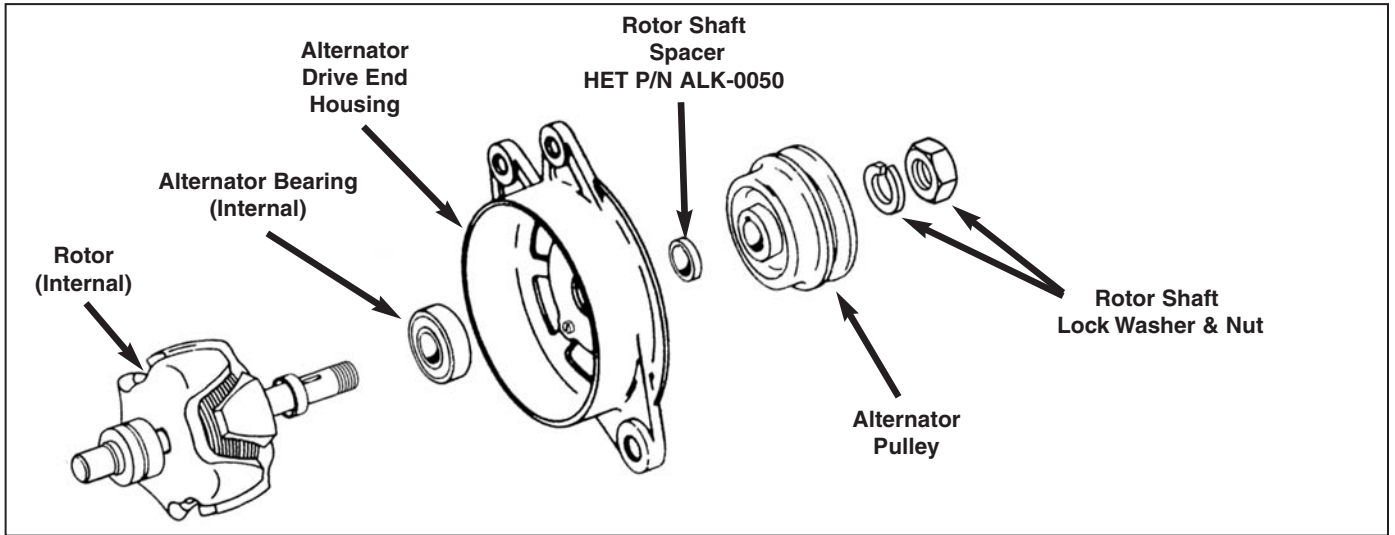
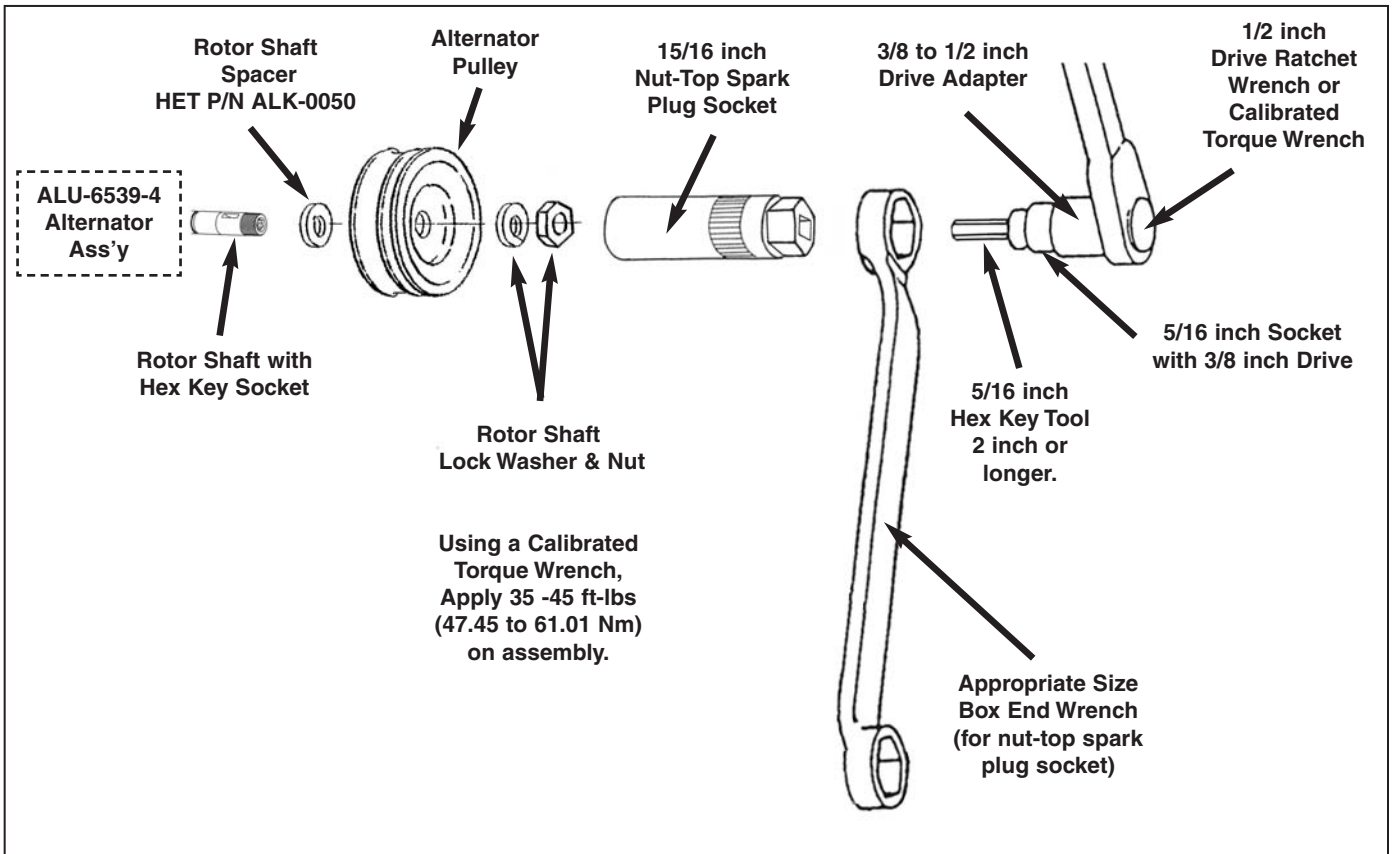

Fig. 1 - ALU-6539-4 Alternator Parts Position
Fig. 2 - Tool Stack for Pulley Removal and Installation
- a. If the alternator IS NOT affected, proceed to section 3.D(3) for Return to Service.
- (1) Inspection of an affected alternator for the missing spacer may be accomplished while mounted on the aircraft if the pulley is removed. Remove pulley per section 3.C(1-8) Corrective Action. Refer to Figure 1.
- (2) Using a bright white light, inspect the rotor shaft at the base of the shaft as it enters the drive end housing for the HET P/N ALK-0050 spacer. This spacer will appear as a 0.090 inch washer with a notch cut out to clear the woodruff key.
- (3) If the HET P/N ALK-0050 spacer is missing, proceed to section 3.C Corrective Action.
- (4) If the HET P/N ALK-0050 spacer is installed, proceed to section 3.C(9-12) Corrective Action.
- (1) Using the instructions in the Piper Aircraft Maintenance Manual, release tension from the alternator belt and remove the belt from the pulley.
- (2) Use a minimum two (2) inch section of 5/16 inch hex stock or cut a 5/16 inch Allen wrench to create the hex stock tool. Insert the hex stock tool into a 3/8 inch drive 5/16 inch socket.
- (3) Place a 3/8 to 1/2 inch adapter on the socket and attach to a 1/2 inch drive ratchet wrench.
- (4) Place a 15/16 inch nut-top spark plug socket on the pulley nut.
- (5) Insert the 5/16 inch hex stock tool (assembly) into the 5/16 inch rotor shaft socket. Refer to Figure 2.
- (6) Using the 5/16 inch (hex key tool to hold the rotor shaft and an appropriate size wrench on the nut-top spark plug socket, turn the wrench counter-clock wise to remove the rotor shaft nut. Refer to Figure 2.
- (7) Remove the pulley and lockwasher.
- (8) Inspect the HET P/N X-3832 woodruff key carefully for distortion, bends, or damage.
- (9) Place the HET P/N ALK-0050 spacer on the rotor shaft sliding the notch over the woodruff key. Refer to Figure 1.
- (10) Install the pulley, lockwasher, and nut.
- b. Use the ratchet wrench with the 5/16 inch hex key tool to turn the rotor shaft counter-clock wise to tighten the nut. Refer to Figure 1.
- (11) Make final torque of the rotor shaft nut 35 to 45 ft-lbs (47.45 to 61.01 Nm) using a calibrated torque wrench with the 5/16 inch hex key tool turning the rotor shaft counter-clock wise.
- (12) Install the alternator belt, tension and align per instructions contained in the Piper Maintenance Manual or as provided by Piper Aircraft for the applicable aircraft.